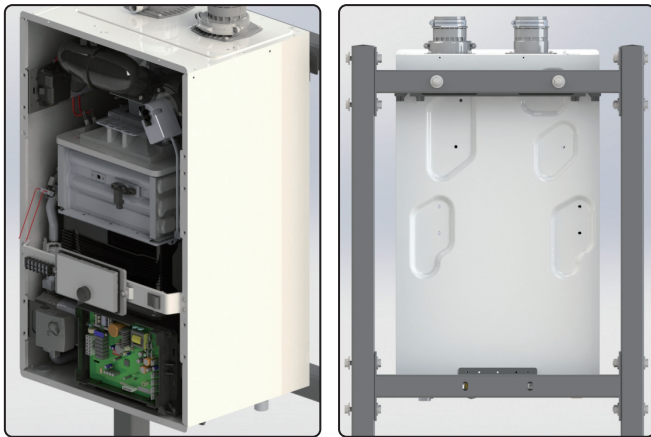

Figure 11 - Mounted Single Appliance
4. See Figures 11, 12, 13 for mounted appliance images.